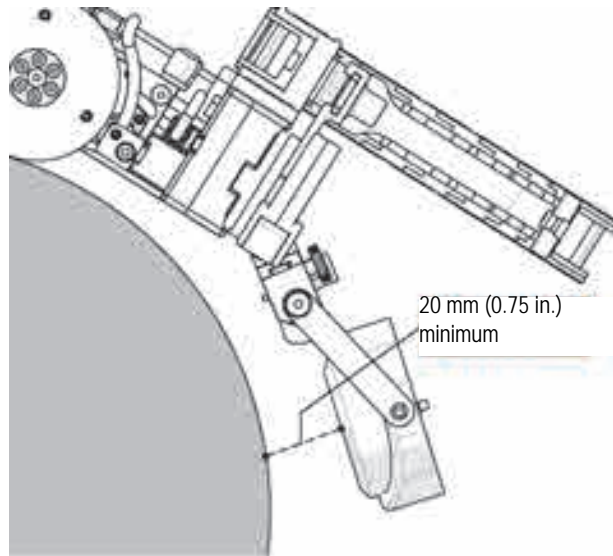

Figure 4-100 Latch the raster arm pivot nose
10. Lower the probe holder to a minimum of 20 mm (0.75 in.) above the scan surface, and latch the raster arm at this position (see Figure 4-100 on page 165).